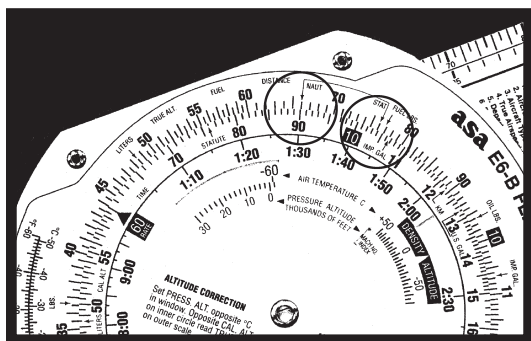

Figure 8
2. Read 103.5 under the STAT arrow. See Figure 8.